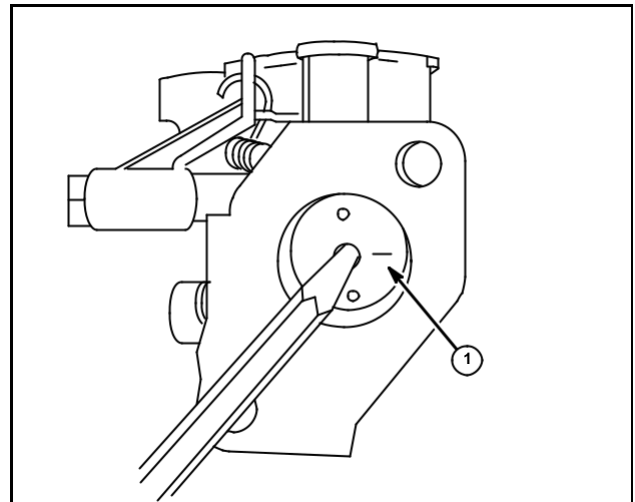

Fig. 85
2. Place new foam seal on throttle and insert shaft in carburetor body. Throttle plate is chamfered and has an identification letter stamped on one side of valve (1).
3. Place throttle plate in carburetor with stamped letter as shown in Fig. 85, and install throttle plate screw.